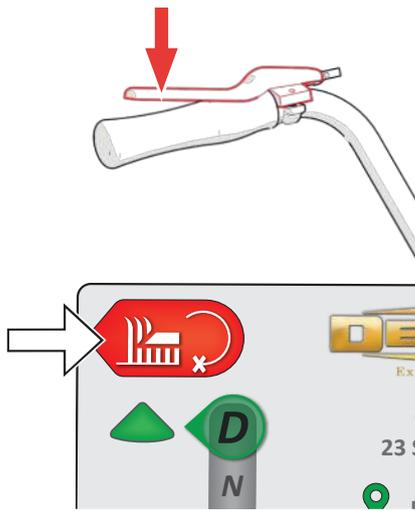

Fig.11E - Stop the cassette motor
7. To stop the cassette motor, release the OPC or press 'Cutter start / stop'. Releasing the OPC will also stop the drive motor (Fig.11E).